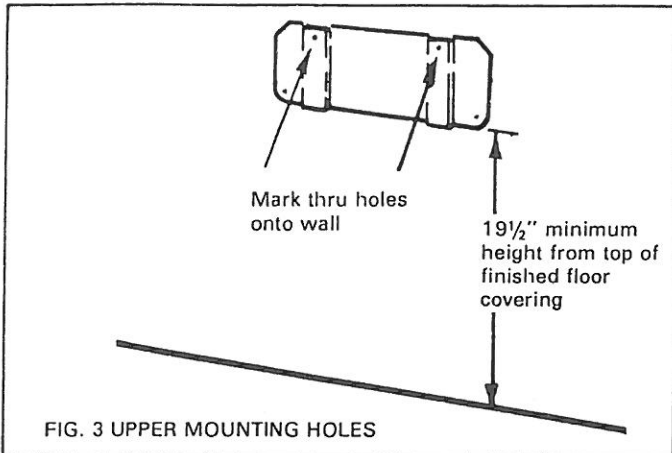

FIG. 3 UPPER MOUNTING HOLES
2. Mark the wall at the centers for the upper mounting holes. For accurate marking, place the upper mounting plate against the wall with its raised channels touching the wall and the holes in the channels towards the top. The bottom edge should be parallel with the floor. The minimum height from the floor to the bottom edge of the mounting plate must be 19½". With the plate firmly held against the wall, mark through the holes in the two raised channels onto the wall (fig. 3).
2. Mark the wall at the centers for the upper mounting holes. For accurate marking, place the upper mounting plate against the wall with its raised channels touching the wall and the holes in the channels towards the top. The bottom edge should be parallel with the floor. The minimum height from the floor to the bottom edge of the mounting plate must be  $19\frac{1}{2}$ ". With the plate firmly held against the wall, mark through the holes in the two raised channels onto the wall (fig. 3).